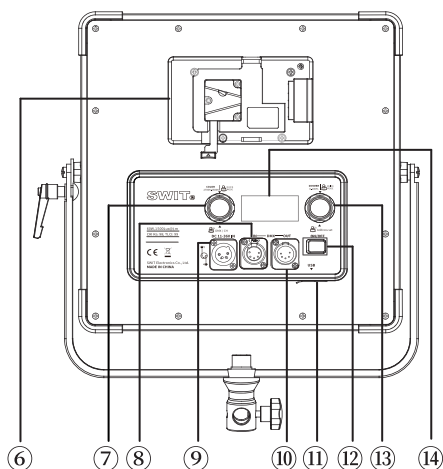
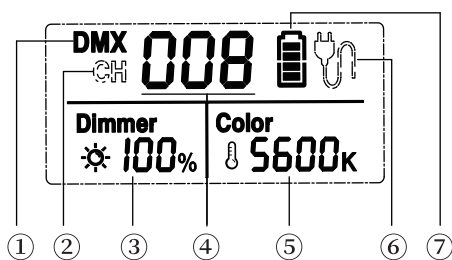

Fig 6 PL-E60P
Fig 8 LCD Display
The light provides two ways of power supply, by V-mount or Gold mount battery or by 4-pin XLR AC-DC power. Turn on the light (Fig. 6 ⑫) and set the color temperature (Fig.6 ⑬) and brightness (Fig. 6 ⑦) to user's requirements.
The light provides two ways of adjusting the color temperature and brightness: normal adjusting mode and quick adjusting mode. User can switch the adjusting mode by press the dimmer knob and color temperature adjusting knob (Fig6. ⑬/⑦).
Press and hold dimmer knob (Fig 6 ⑬) for 2s to enter communication address setting interface, the address setting range is 001 to 512. LCD digital tube (Fig 8 ④) flashing means the current address is selected, rotate the brightness adjusting knob (Fig6 ⑬) to set the current address, press the brightness adjusting knob (Fig 6 ⑬) to confirm, when finish the last setting, press the brightness adjusting knob (Fig 6 ⑬) or wait for about 5s to quit.
Connect the lights network through using DMX cable. Press and hold color temperature adjusting knob (Fig. 6 ⑦) for around 2 seconds to complete the communication control setting.
The upper left corner of LCD shows "DMX" (Fig. 8 ①) indicating that the communication control mode currently is the DMX communication mode. In this mode, connect the DMX signal output device to the lights network, and set up the communication address to work normally.
The upper left corner of LCD shows "CH" (Fig8 ②) indicating that the communication control mode currently is interaction control mode. In this mode, set the target lights to the same communication address to work normally, and the master-slave machine is not distinguished.